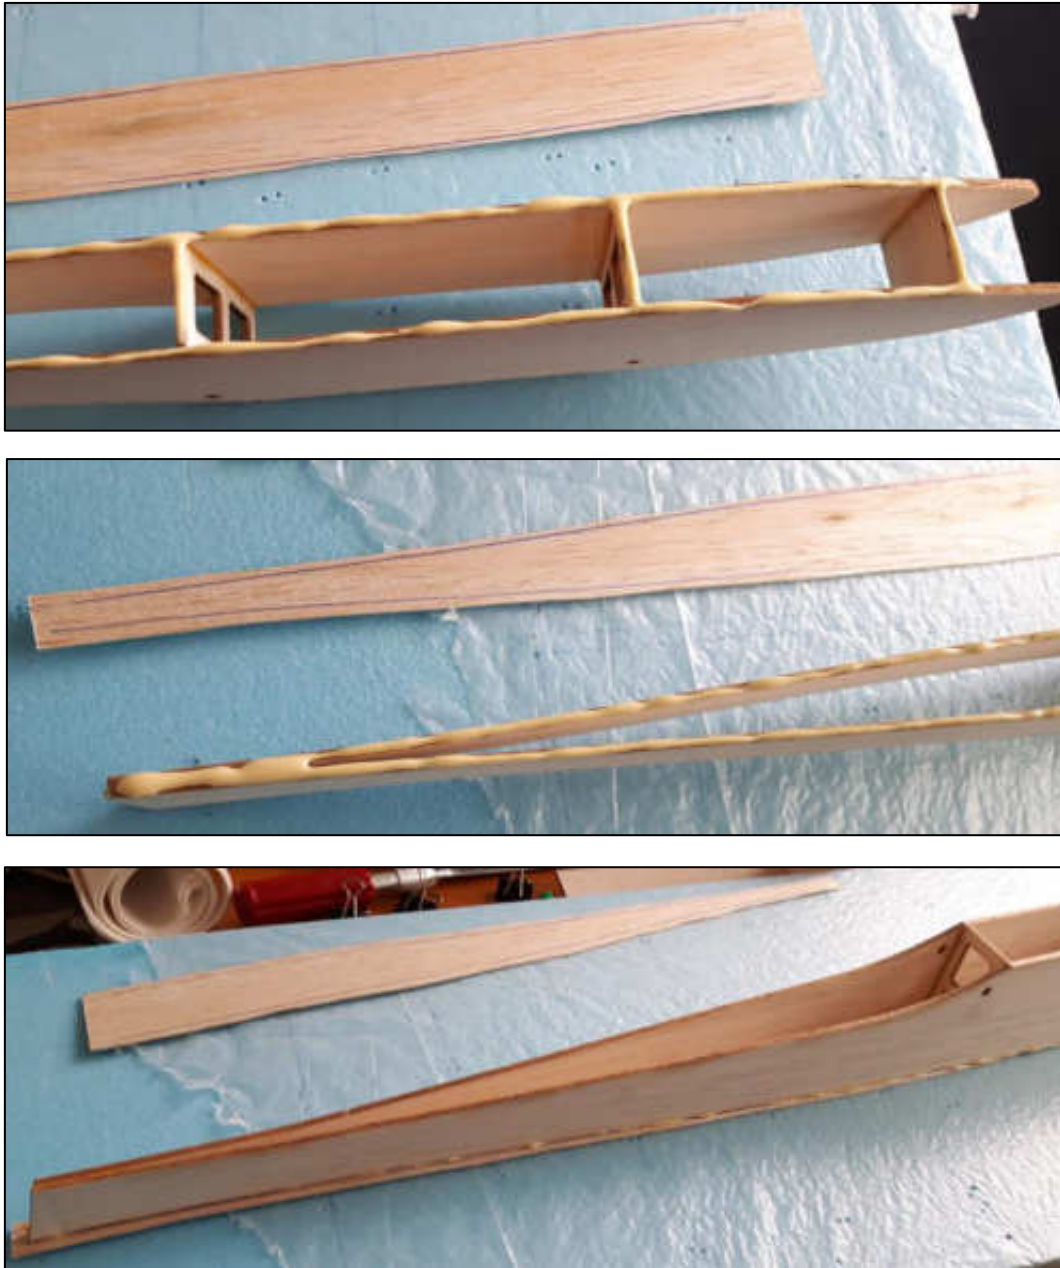

Figure 19: Glue the bottom skin to the fuselage.
19. Apply glue to the bottom of the fuselage and position it over the bottom skin, Figure 19.